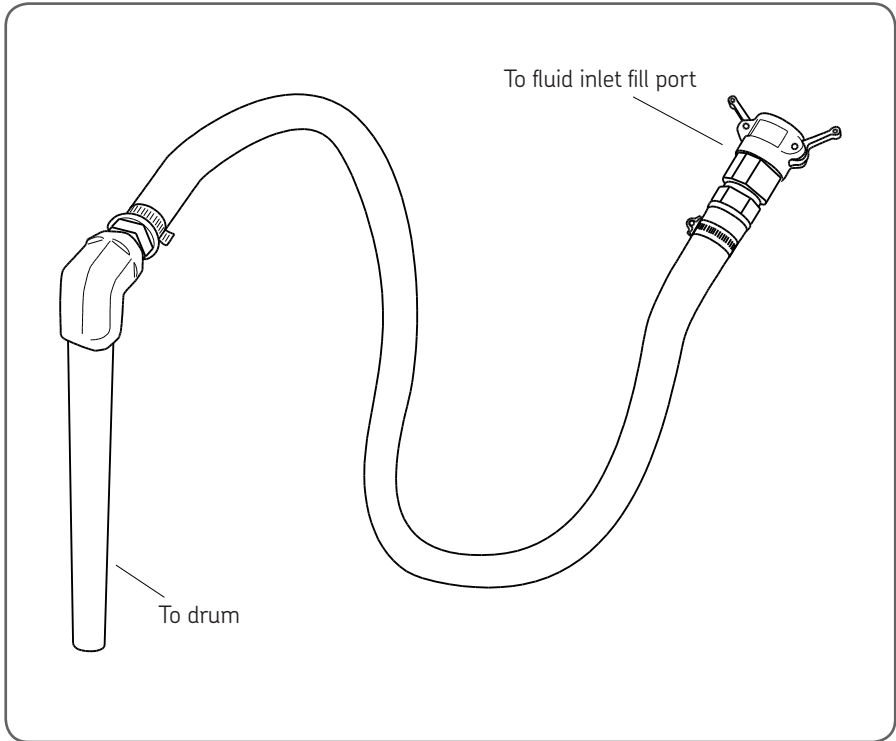

Fig 20 Suction hose assembly
1. Locate the suction hose assembly. Each tank will have its own individual suction hose assembly. See figure 20